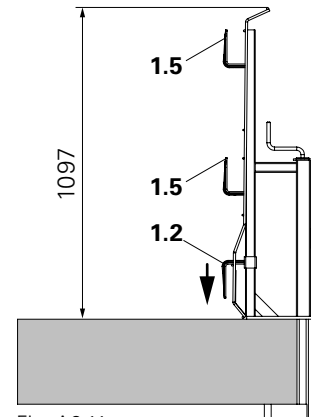

Fig. A2.11
9. Lower the toe board holder. (Fig. A2.11)